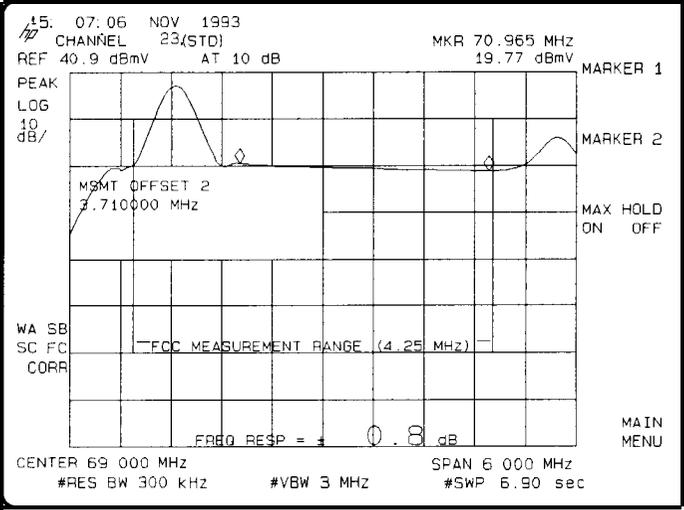
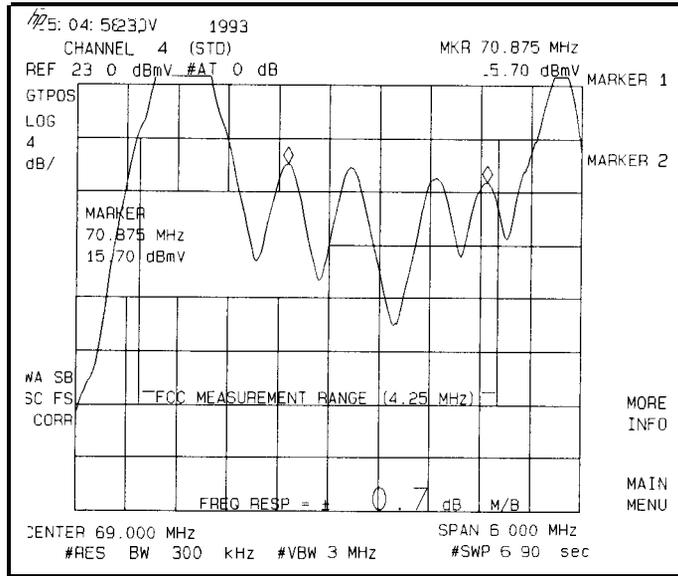

Figure 2-36. Results with GCR or line Sweep Test Signal
Figure 2-37. Results with FCC Multi-Burst Test Signal
4. Press **CONTINUE** to execute the measurement. The peak and valley in the measurement range will be found and used to calculate the result. See Figure 2-36 and Figure 2-37. Pressing **MARKER 1** or **MARKER 2** allows manual placement of the markers. After either of these keys is pressed, the automatic peak-to-valley search is stopped so the markers stay where they are manually placed.